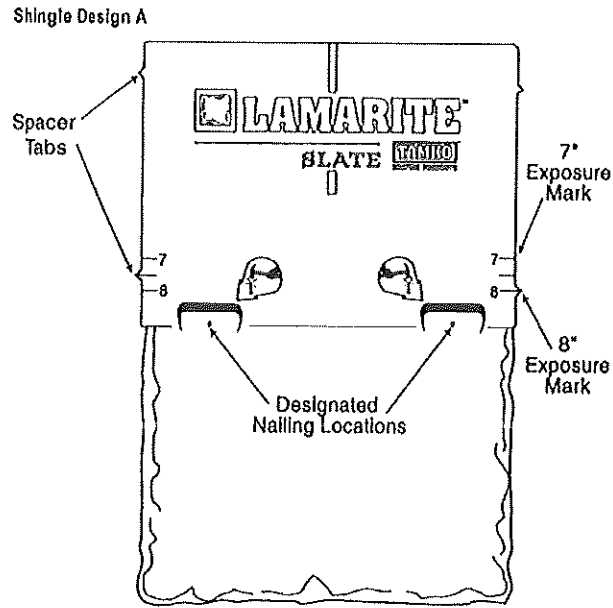

FIGURE 1—TYPICAL SHINGLE
2.2.1 Lamarite Slate Composite Shingles: Lamarite Slate Composite Shingles are 12 inches (305 mm) wide and 18 inches (457 mm) long, and are for installation with exposures of 7 inches or 8 inches (178 mm or 203 mm). Spacer tabs are manufactured into the side edges of the shingles to ensure a proper 1/8-inch (6.4 mm) spacing between the installed shingles. A typical shingle is shown in Figure 1. The shingles weigh approximately 5.2 pounds per square foot (25 kg/m²) and 4.5 pounds per square foot (22 kg/m²), when installed with exposures of 7 inches (178 mm) and 8 inches (203 mm), respectively.
Installation of the shingles must be in accordance with the Tamko installation instructions. Each full shingle must be fastened with two corrosion-resistant fasteners, described in Section 2.2.4. One nail must be placed in each of the nailing locations marked on the shingle. (See Figure 1.)